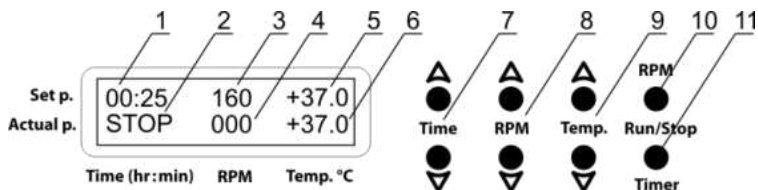

Figure 1. Control panel
- 5.2. The display turns on. The upper line shows the previously set time in hours and minutes (fig. 1/1), speed in RPM (fig. 1/3) and temperature in °C (fig. 1/5) and the lower line shows current readings of the same parameters: the timer (indication STOP, fig. 1/2), speed (fig. 1/4) and chamber temperature (fig. 1/6), that automatically starts rising according to the set temperature.
5.3.1. **Setting time (Time).** Using the ▲ and ▼ **Time** keys (fig. 1/7) set the required working time interval in hours and minutes (increment 1 min).
5.3.2. **Setting speed (RPM/Shaker).** Using the ▲ and ▼ **RPM** keys (fig. 1/8) set the required shaking intensity in revolutions per minute (increment 10 rpm).
5.3.3. **Setting temperature (Temp.°C).** Using the ▲ and ▼ **Temp.** keys (fig. 1/9) set the required temperature (increment 0.1°C). The chamber heating starts automatically.
Caution! The chamber heating can only be stopped manually by reducing the temperature with the ▼ **Temp.** key (fig. 1/9) until the OFF indication appears in the in upper line of the **Temp.°C** display segment.
5.4.2. Press the **RPM Run/Stop** key (fig. 1/10, called the **Shaker Run/Stop** key on **ES-20/60**). The platform starts rotating and the timer starts counting the time interval, with 1-minute precision.
5.5. **Finishing the program.** After the set time elapses, the platform motion stops and the display shows a flashing reading STOP (fig. 1/2) accompanied by a repetitive sound signal until the **RPM** or **Shaker Run/Stop** key is pressed.
5.6. If the working time is not set and the timer in the upper line (fig. 1/1) shows 00:00, pressing the **RPM** or **Shaker Run/Stop** key starts continuous operation of the unit. The **Time** segment of the display shows an OFF indication in the upper line (fig. 1/1) and a countdown timer in the lower line (fig. 1/2). Pressing the **RPM** or **Shaker Run/Stop** key stops the platform motion.
Caution! At the end of the set time, platform movement is stopped automatically, but heating can only be stopped manually by reducing the temperature with the ▼ **Temp.** key (fig. 1/9) until the OFF indication appears in the in upper line of the **Temp.°C** display segment.
5.7. The timer can be restarted during the unit operation if necessary. Press the **Timer Run/Stop** key twice (fig. 1/11), first time – to stop the timer, second – to restart it.